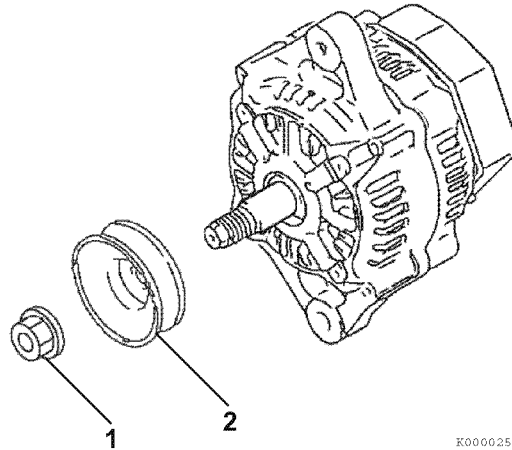

Figure 12-5
1. Remove the nut (1, **Figure 12-5**) from the shaft of the rotor assembly. Remove the pulley (2, **Figure 12-5**).